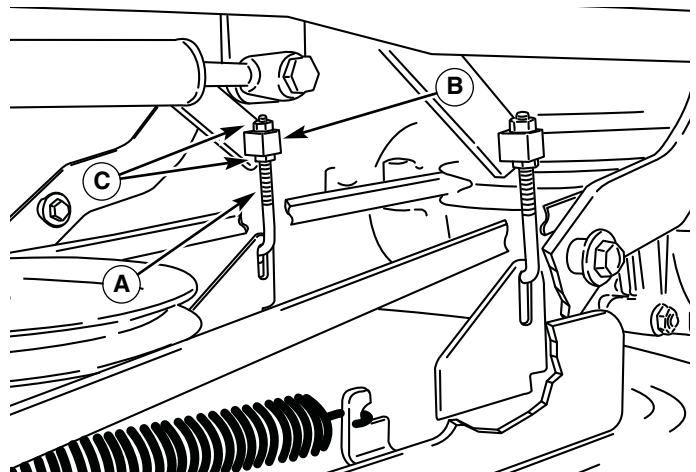

Figure 49. Side-to-Side Adjustment
6. See Figure 49. Side-to-side leveling is accomplished using the threaded rods (A, Figure 49) and trunnion (B) on the right and left rear sides of the mower deck. Loosen the jam nuts (C) and adjust the nuts up or down to adjust the mower level. When complete, tighten the jam nuts against the trunnion to lock the adjustment in place.